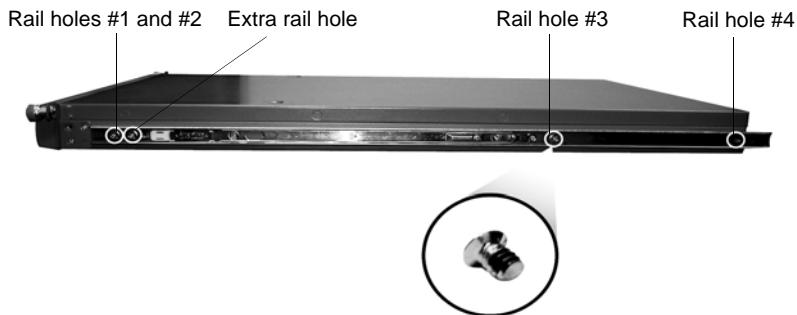

FIGURE 1-12. Attaching a rail to the side panel using slide screws
3. Attach a rail to the device side panel by using a minimum of four (4) slide screws (see *Figure 1-12*).